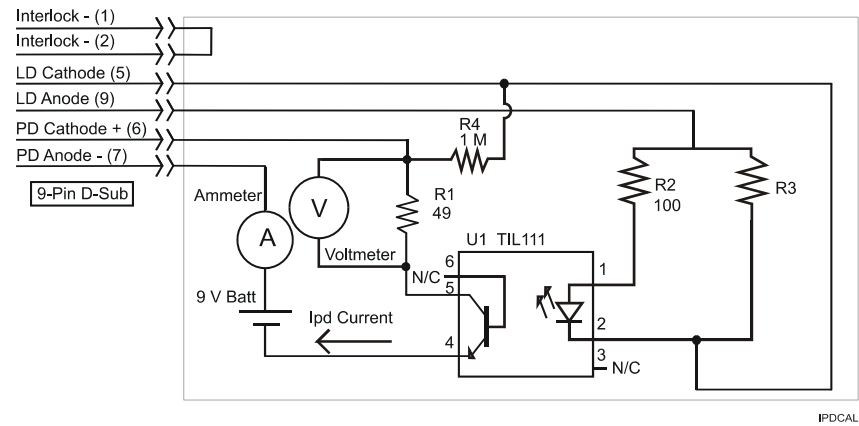

Figure 5.1 I_{PD} Calibration Circuit
It will be necessary to connect various loads and circuits to the outputs of the module for the calibration procedure. The devices required for most of the calibration loads are listed in Table 5.2. A schematic is shown in Figure 5.1 for the photodiode calibration circuit, with the required components listed in Table 5.3.
See schematic in Figure 5.1
- 1 With the output off, connect the IPD calibration circuit, Figure 5.1, to the laser connector.